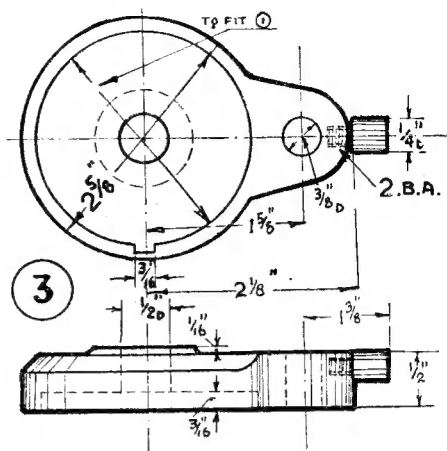

Fig. 8
THE dimensions of the top plate are shown in Fig. 8. Grip the casting in the three-jaw, chamfer side in. Face right across the lug, removing about $\frac{1}{8}$ -in. of metal. Drill the $\frac{1}{2}$ -in. hole but not the $\frac{3}{8}$ -in. hole in the lug. Bore the recess to fit the pillar to a depth of $\frac{3}{16}$ -in. and cut the keyway. The method will be explained when dealing with the carriage (5). Reverse the casting in the chuck, gripping it by the inside of the bored recess, and face right across the lug, reducing the thickness to $\frac{1}{2}$ in. Face the nut bearing boss, and reduce the height until it stands proud about $\frac{1}{16}$ -in.